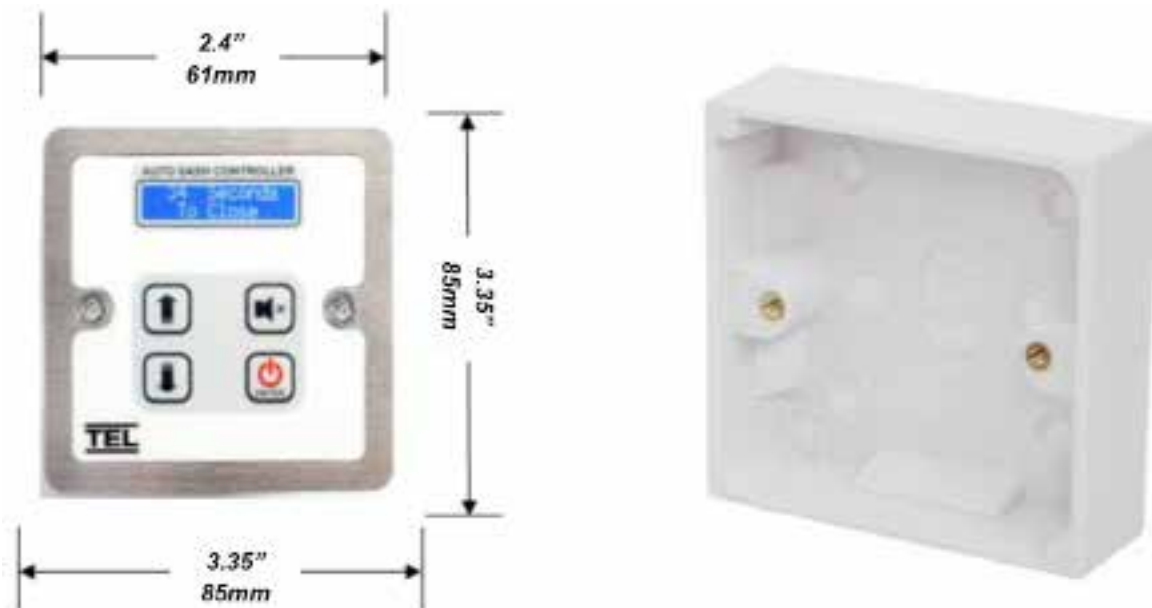
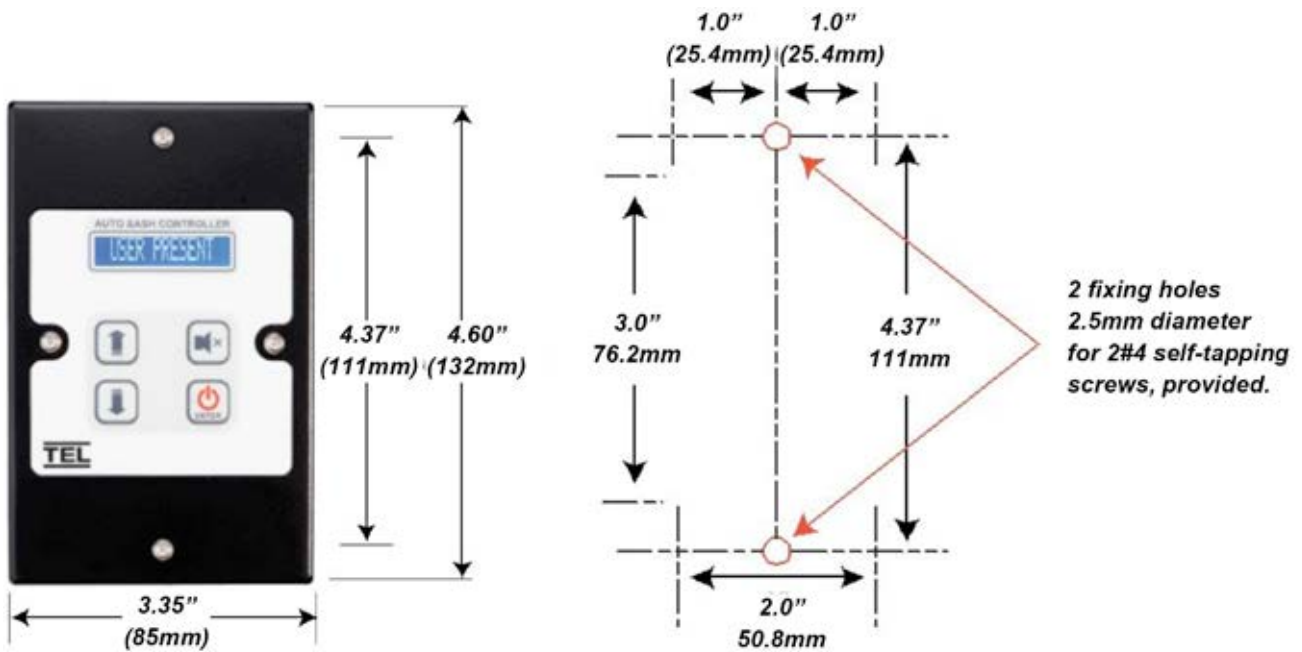

Figure 20 - Version 1 - UK Single Gang Keypad Fits in Standard Single Gang Socket
Figure 21 - Version 2 US Single Gang Keypad – (requires cut out in front panel)
1. Fit the Auto-Sash Keypad to the fume hood using either a single gang socket for UK applications or, for US applications, using a cut-out to the (Version 2) dimensions shown in Figure 20 and Figure 21: